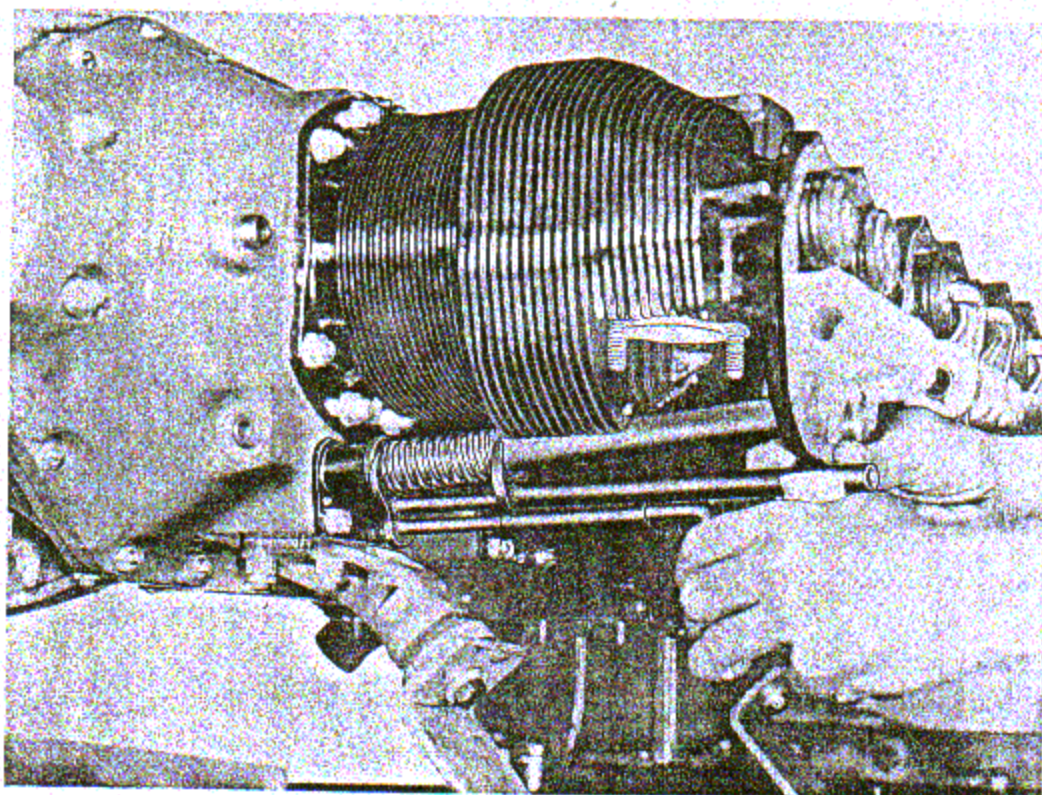

Figure 7-8. Installing Pushrod Housing Assembly
h. Assemble pushrod housing parts, as described in paragraph 6-34 step "i". Compress spring with compressor, tool group 17, claws grasping housing flange and end of spring (not seal and washer). (See figure 7-8.) Insert end of housing and seal into
flange on crankcase; then swing outer end of housing into line, and release pressure on spring slowly as housing and outer seal are guided into rocker box hole. (See figure 7-8.) If such a tool is not available